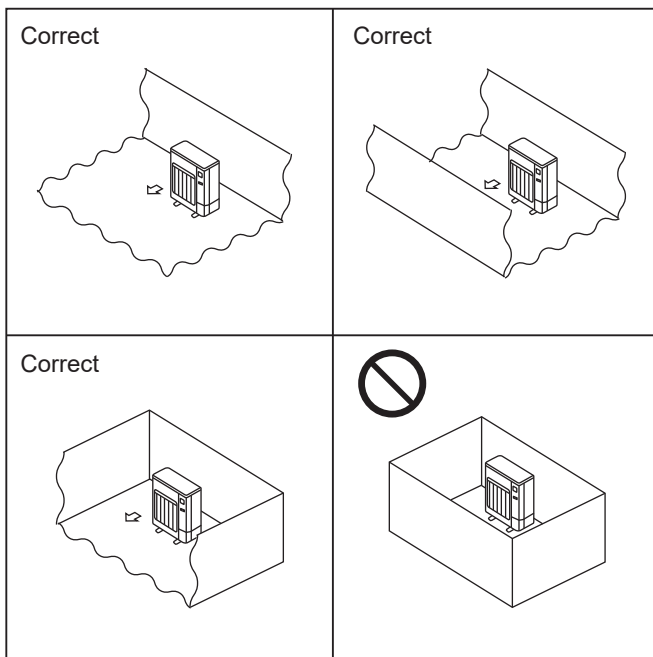

Fig. 2-1
- ⊙ Install outdoor units in a place where at least one of the four sides is open, and in a sufficiently large space without depressions. (Fig. 2-1)